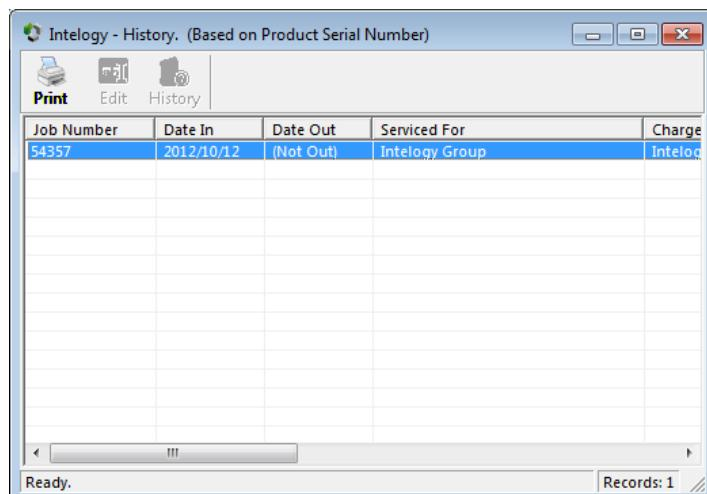

Figure 9.4 - History - Based on serial Number
- Serial Nº: the units serial number. To view any history on this serial number, press the ‘History...’ button. This displays the ‘History’ screen, which displays all previous repairs done on the serial number entered. Refer to Figure 9.4.